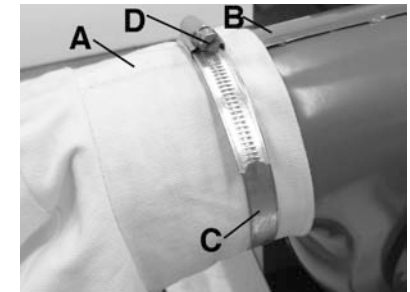

Figure 4
Attach the collector bag (A) Fig.4 to the outlet (B) with dust bag clamp (C), fix into place by tightening screw (D) on dust bag clamp with a flat head screwdriver.